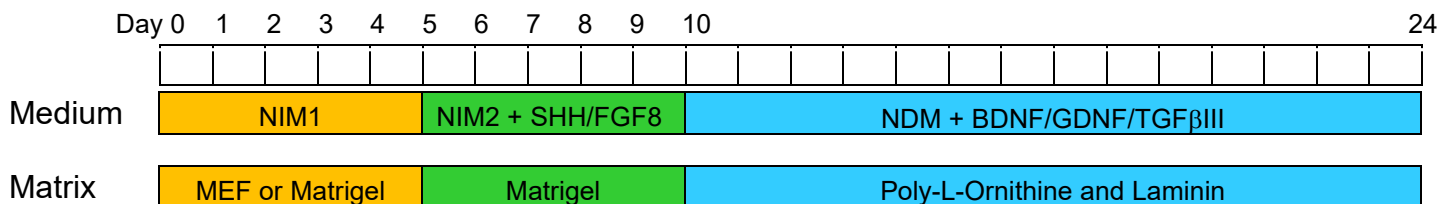

Figure 1 Schematic time course for SCR135 dopaminergic neurogenesis
12. On day 10, a high percentage of cells should have a neural rosette structure (See Figure 1). The relative degree of neural rosette structures may vary between cell lines and subclones. Rinse the cells with 1 mL/well Accutase (Cat. No. SCR005). Aspirate and add 1 mL/well Accutase and incubate at 37°C for 5 minutes to dissociate the cells.